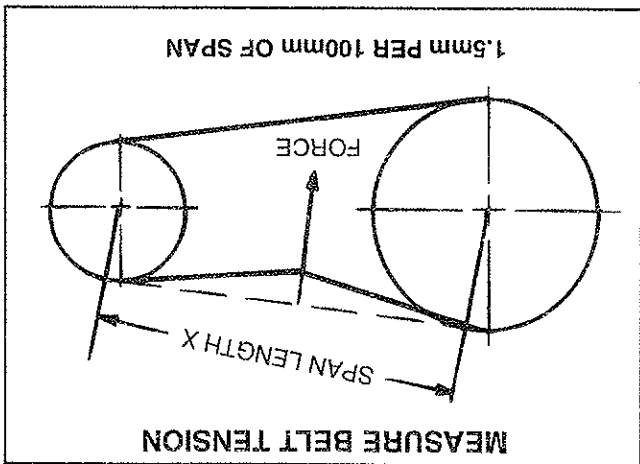

FIGURE 12
- 1 - Measure span length X. See figure 12.
- 2 - Apply perpendicular force to centre of span (X) with enough pressure to deflect belt 1.5mm per 100mm of span length.